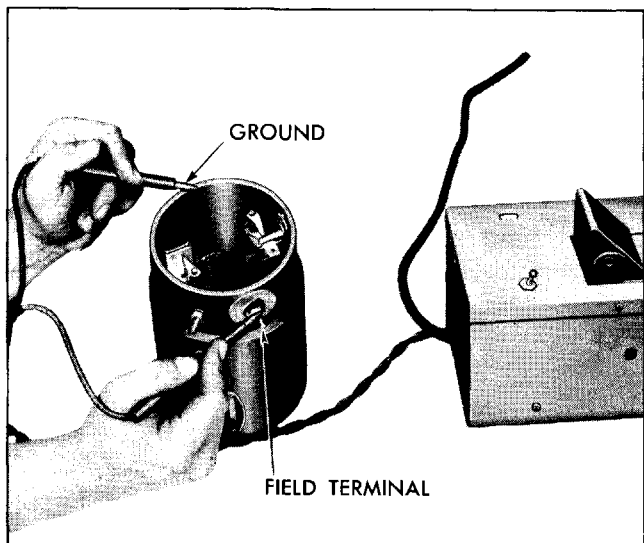

Fig. 12-19 Testing Field Coils for Ground
e. Using a 110-volt test lamp, place one lead on ground (touch to generator frame) and other lead on field terminal on generator frame (be sure free end of field wire is not touching ground and field terminal insulation is not broken) (Fig. 12-19). If lamp lights, the field coils are grounded. If ground in field coils cannot be located or repaired, coils must be replaced.